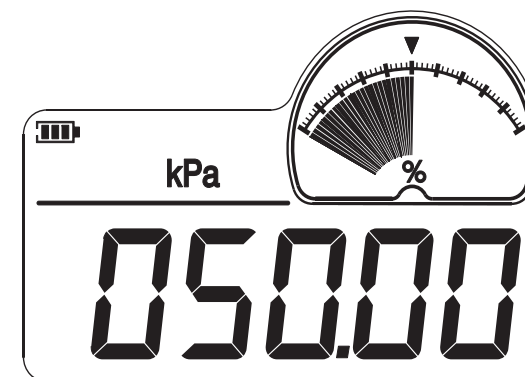

Figure 7-7-1: Pressure % indication
**Example: for the ADT681 with (0~100) kPa, if the current pressure value is 50kPa, the % indicator is 50%, as figure 7-7-1.**